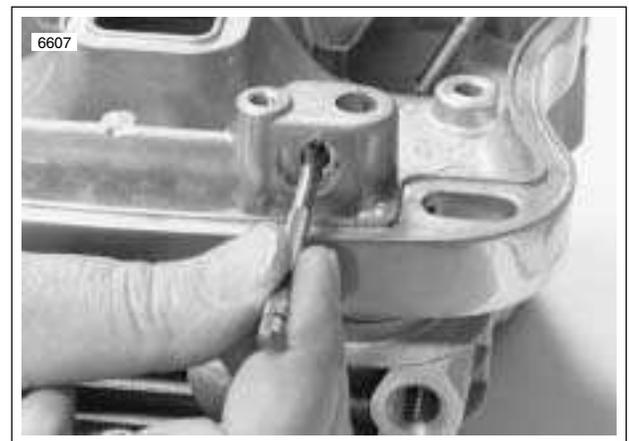

**Figure 3-12. Measuring Rocker Arm Shaft Diameter (Rocker Cover Position)**
- a. See Figure 3-12. Measure where shaft fits in lower rocker arm cover.